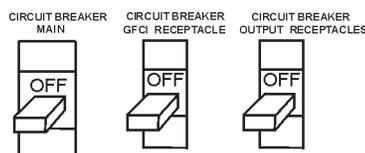

Figure 43. Main, GFCI and Load Circuit Breakers
1. Be sure to disconnect the electrical load and switch the **main**, **load** and **G.F.C.I.** circuit breakers (Figure 43) to the "OFF" position prior to starting the engine.